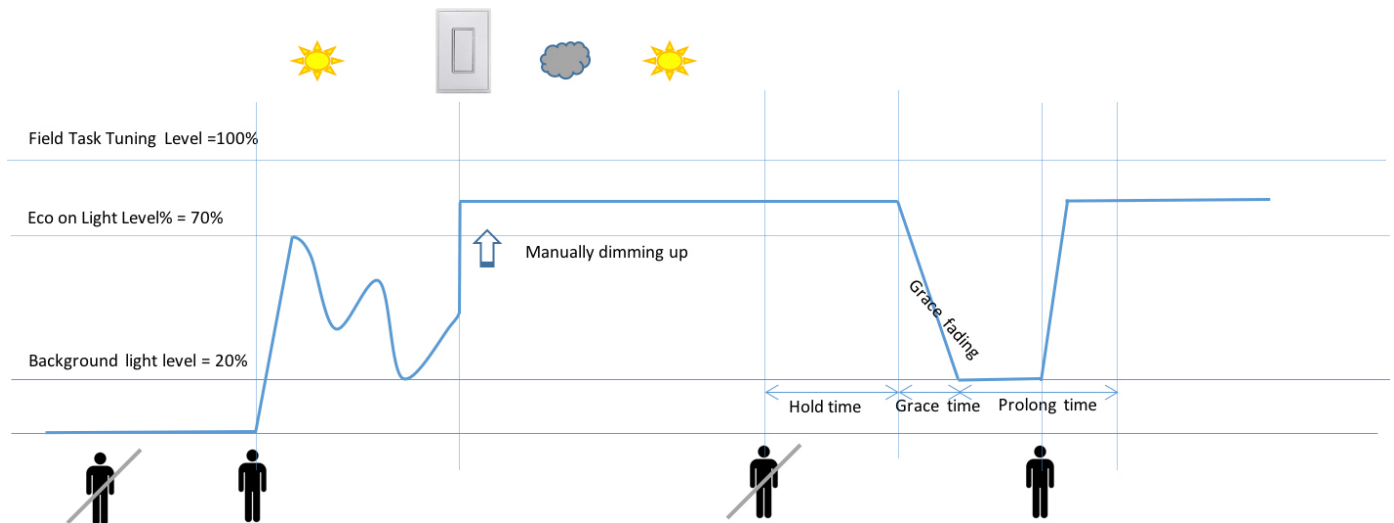
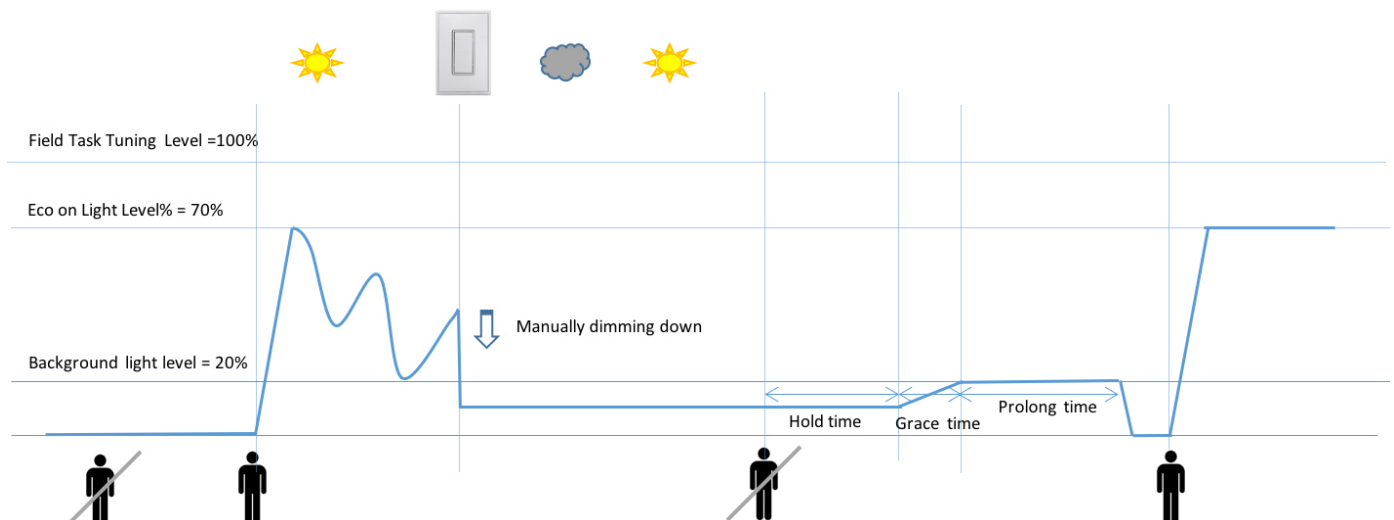

Figure 10. Auto on/ auto off with manual dimming override.
Figure 11. Auto on/ auto off with manual dimming override.
- Light level can be set to an intermediate level by manual dimming override using the wireless switch. When a manual dimming override is performed, daylight-based control is disabled, and light will be on constantly at this level. When the room becomes unoccupied, the light goes to the background light level during prolong time, and if the occupant enters the room before prolong time expires (Figure 10), the light will stay at the level set by the manual dimming override. If the prolong time expires, the light will turn off and go to the eco on level when occupant enters the room (Figure 11).